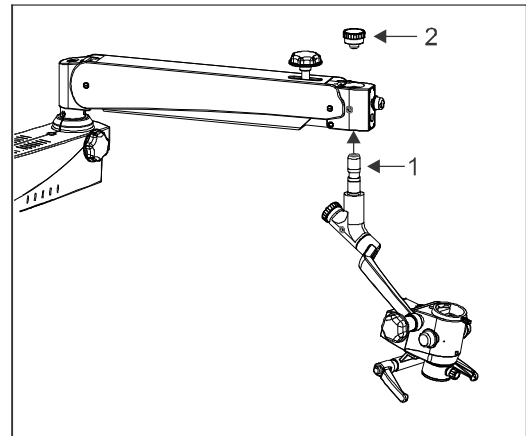

Fig. 4
7.4 Retrieve the carrier assembly from the packing and follow as below refer Fig. 4.
- Install the coupling to the suspension arm by sliding the guiding shaft (1) in to the suspension arm.
- Lock the inclined coupling with the threaded plug (2).